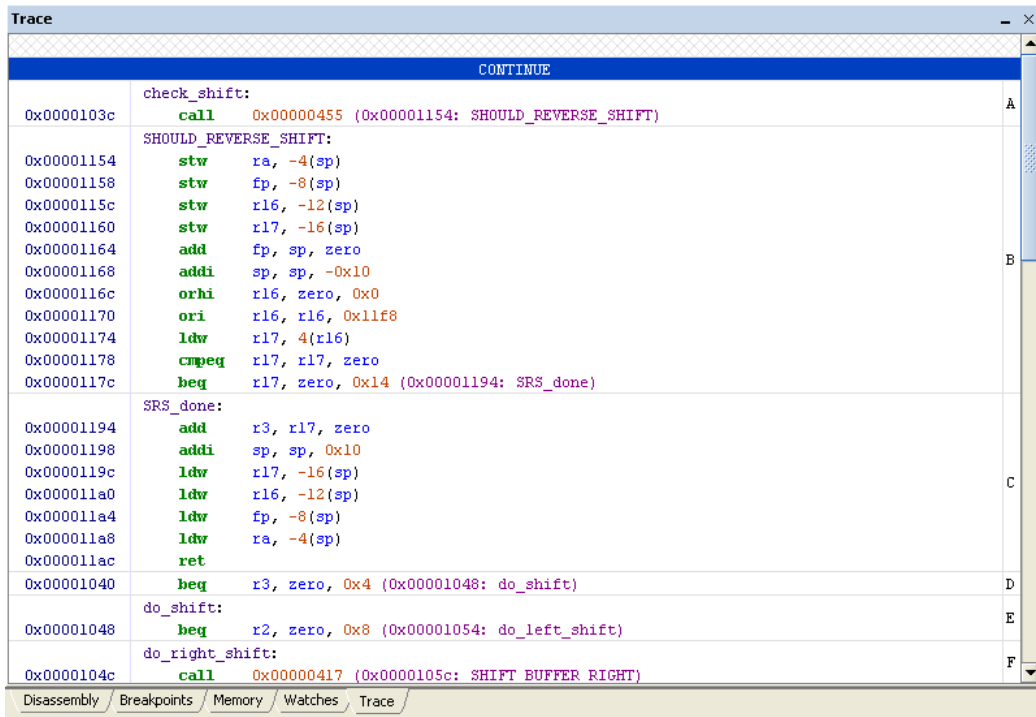

Figure 49. A partial view of the trace between the two breakpoints.
6. Switch back to the **Trace** window. The window will now be displaying all the instructions executed starting from the first breakpoint to the second breakpoint, as indicated in Figure 49. As seen in the figure, the trace is divided into *instruction blocks*. Although it is not evident in this trace, the Monitor Program will try to find repeated instruction blocks and common sequences to reduce the length of the trace on the screen.